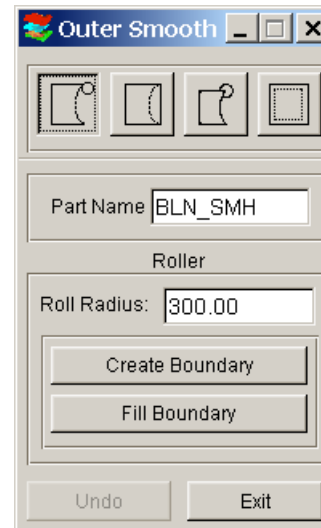

Figure 1.21
- b) Select **Roller** (See Figure 1.21)